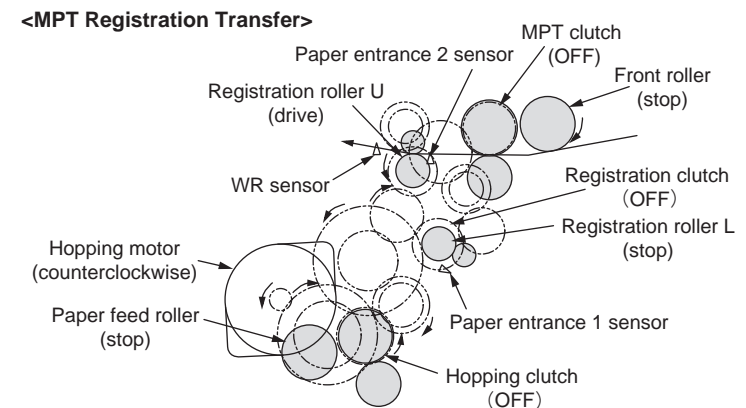

Figure 2-4
3. As shown in Figure 2-4, after the hopping motor stops, the hopping motor rotates (clockwise) to let the registration roller U transport the paper. (the MPT clutch is turned OFF in a few second after the registration roller U is driven.)